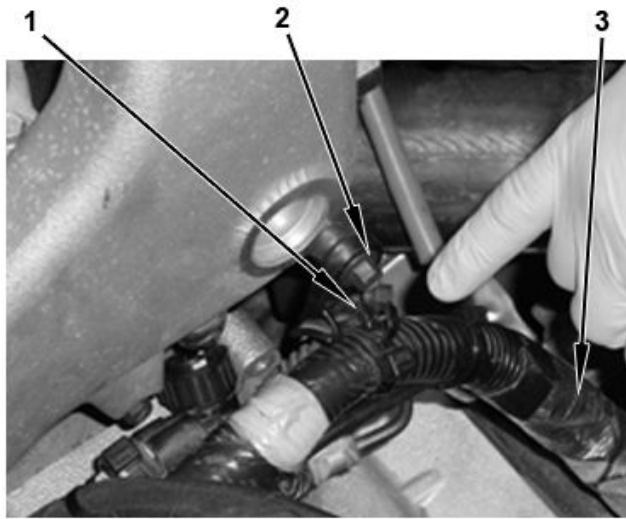

Figure 5. Engine Harness Guide.
7. Remove engine harness guide (Figure 5, Item 1) from bolt (Figure 5, Item 2).